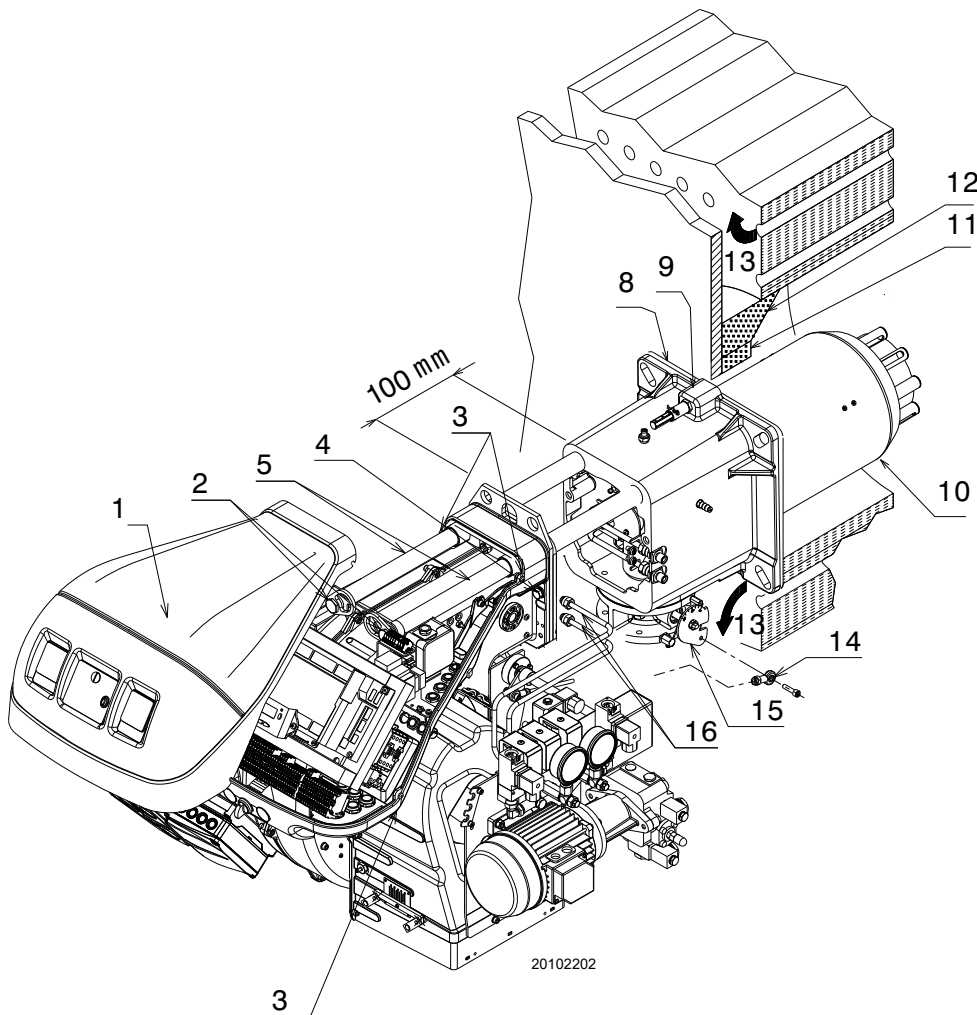

Fig. 16
For boilers with a front flue gas passes 13)(Fig. 16) or flame inversion chamber, a protection device in refractory material 11) must be inserted between the boiler fettling 12) and the blast tube 10).
Separate the combustion head from the rest of the burner, (Fig. 16). To do this, proceed as follows:
- reassemble the burner on the guides 3) at about 100 mm from the pipe coupling 4) - burner in the position shown in Fig. 16;